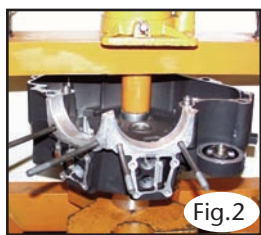

Fig.2
2. Slip driver/pilot (No.1146-3) through old bearing and into the support tool Note: You must match the contour of driver/pilot, with the contour of case, See Fig.2.